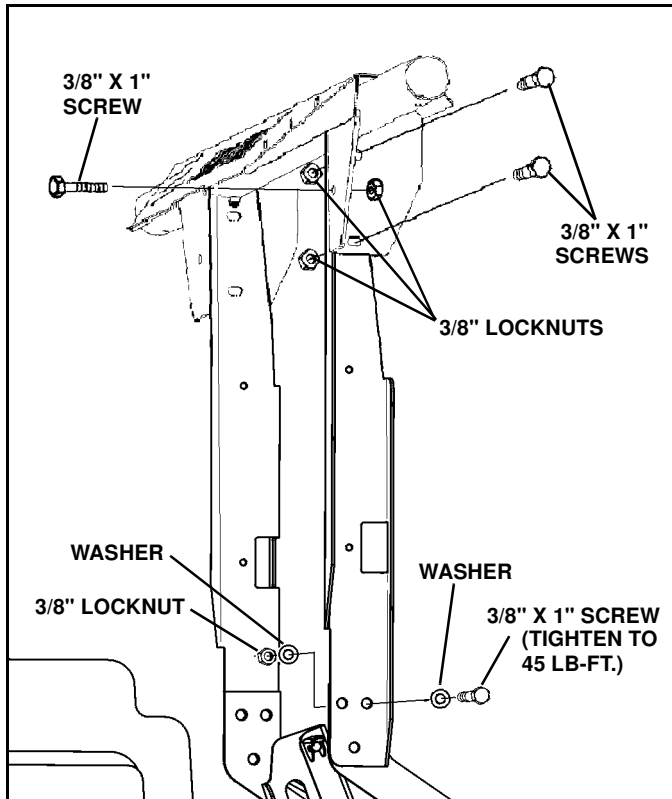

Figure 1-10
17. Remove left and right light support from power pack carton. Secure each light bar support to lift/light bar with (3) 3/8" x 1" screws, (6) washers and (3) lock nuts from the light bar parts bag part number 96106089. Do not tighten at this time. (See Figure 1-10).
18. Secure light bar to supports with (6) 3/8" x 1" screws and lock nuts. Align light bar supports to vertical position and tighten all light bar hardware. Tighten six lower screws to 45 lb-ft. (See Figure 1-10).